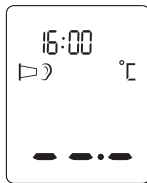

Figure 2
2. Press the **⏻** BUTTON, The display is activated to show all segments. After self-checking Figure 2 appears on the display screen with beeps, so you can start a new measurement. If error messages appears, it means the thermometer is not ready for measurement.